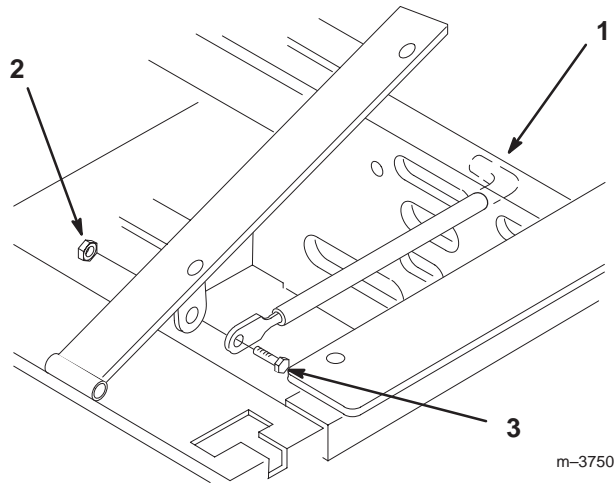

Figure 3
1. Tilt seat up. Remove the locknut (5/16 in.) from bolt attaching seat retaining rod to seat frame (Fig. 3).
2. Remove retaining rod from seat and insert the **L** shaped end of the rod into the hole directly above the left–side hydraulic pump (Fig. 3).
- Place the seat retaining rod to the outside of the mounting tab of the seat frame and secure with a bolt (5/16 x 1 in.) bolt and locknut 5/16 in. (Fig. 3).